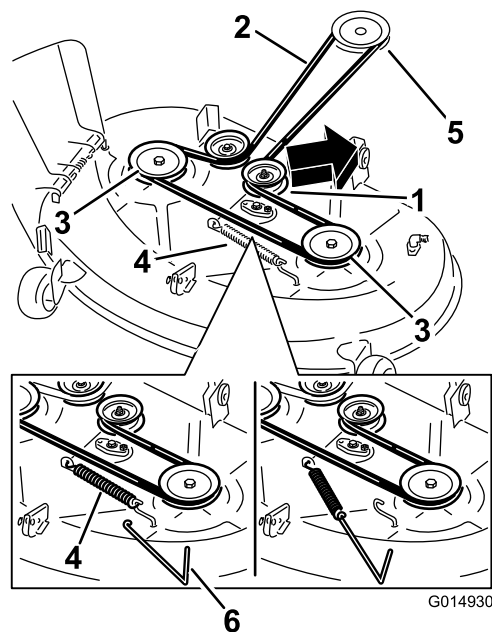

Figure 45
6. Route the new belt around the engine pulley and mower pulleys (Figure 45).
7. Using a spring-removal tool (Toro Part No. 92-5771), install the idler spring over the deck hook and place tension on the idler pulley and the mower belt (Figure 45).
5. Using a spring-removal tool (Toro Part No. 92-5771), remove the idler spring from the deck hook to remove tension on the idler pulley and roll the belt off the pulleys (Figure 45).